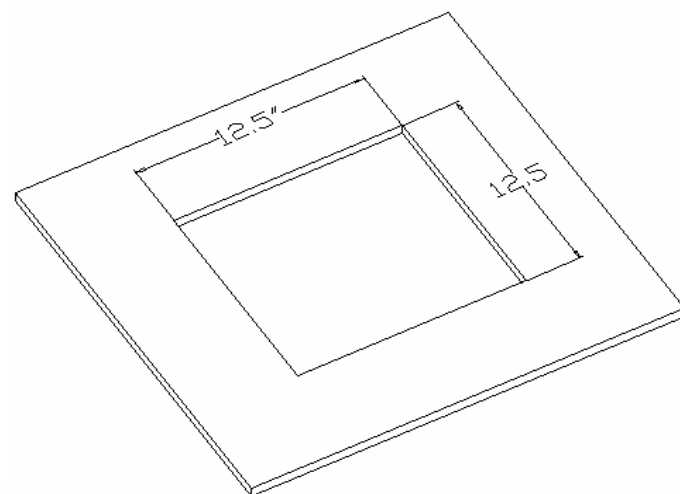

Figure 1 - Cutting ceiling tile.
Step 1 - Cut a 12.5" x 12.5" opening in the center of a ceiling tile (not included – ref. *Figure 1*).